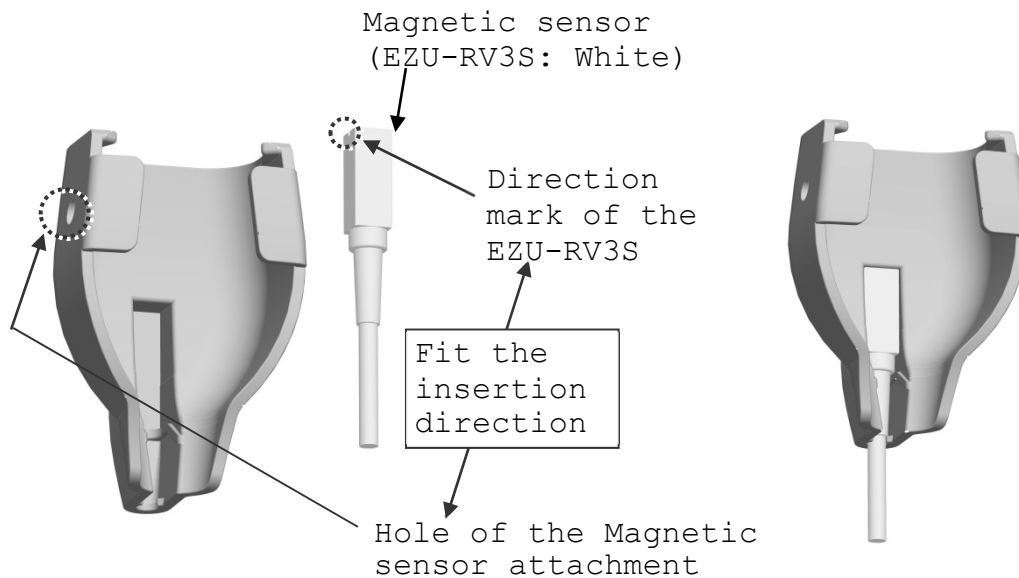

Fig. 9 How to attach the Magnetic sensor
- a) Attach the Magnetic sensor into the probe with the correct direction as shown in Fig. 9.